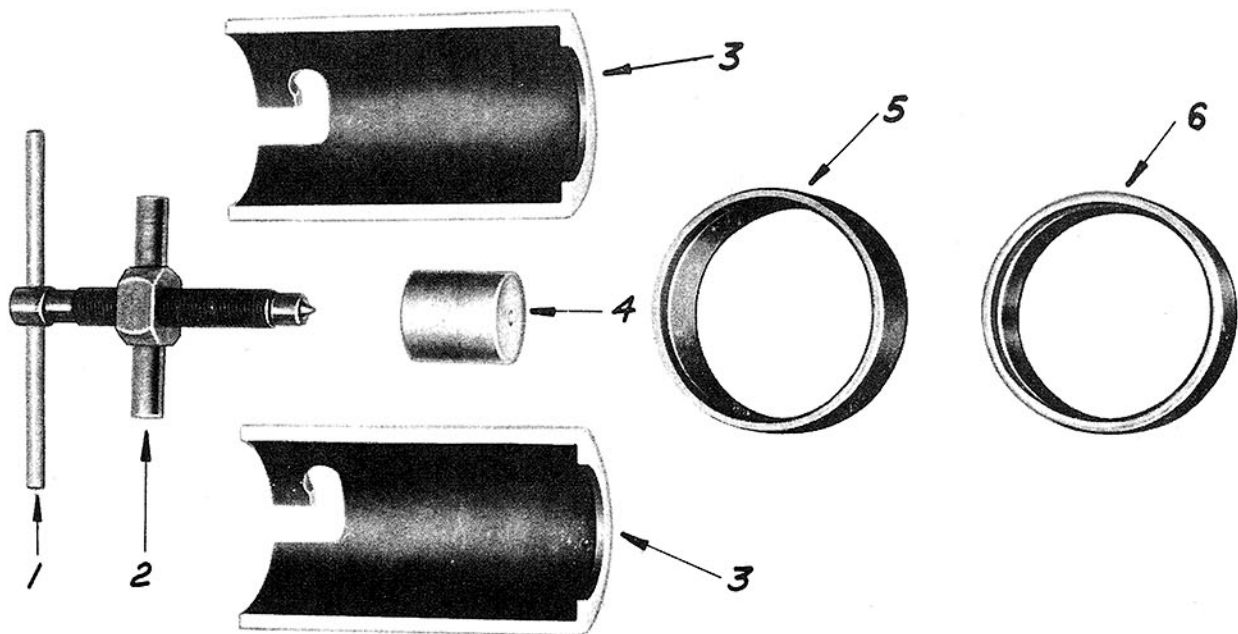

Figure 1. Tool Set Complete, Part No. 96015-56
To pull sprocket shaft bearing from 74 OHV flywheel assembly, items 1, 2, 3, and 5, shown in Figure 1 on page 1, are used. Place pinion shaft end of flywheel assembly between copper jaws in a vise. Place hooked ends of puller body halves (3) back of bearing next to flywheels and slip plain round collar (5) over outside of body halves so that it will hold them together when pulling off bearing. Turn screw assembly (1) part way into screw block (2), and engage the block ends in puller body slots. Tighten the puller screw against sprocket shaft center to pull bearing off as shown in Figure 2.
To pull sprocket shaft extension, tool is used in same manner as above, with these differences: Adapter plug (4) of Figure 1 is used as a center, being inserted into sprocket shaft extension. The plain round collar (5) is used for 1955 and later 74 OHV sprocket shaft extension. Collar (6), identified with groove around outside, is used for 1957 Model XL (Sportster) sprocket shaft extension. Figure 3 shows manner of using puller on 74 OHV sprocket shaft extension.